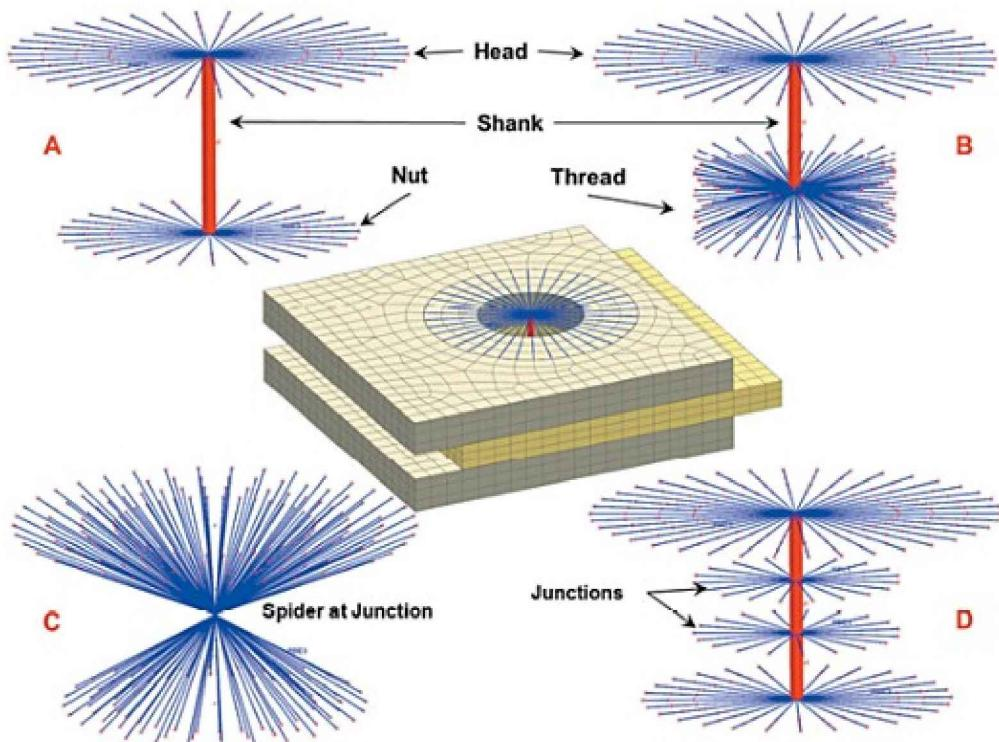

Figure 3.37. Types of bolted connections
- *Bolt with Nut*, Figure 3.37, A. Spider-type connections (sets of 1D elements radiating from a single point) are created on surfaces where the head and the nut contact the structure, while the shank of the bolt is modeled by the selected 1D element, usually a beam element.
- *Bolt in Tapped Hole*, Figure 3.37, B. Spider-type connections are created on surfaces where the head contacts the structure, and on the surface of the hole along the thread, while the shank of the bolt is modeled by the selected 1D element.
- *Spider at Junction*, Figure 3.37, C. Two spider-type connections are created, all 1D elements radiating from a single specified point.
When you model a bolt with a nut or thread, and need to take into account the intermediate part of the structure and the way it engages the bolted connection, you can create a spider-type connection at the specified point between the head and the nut or between the head and the thread (Figure 3.37, D).